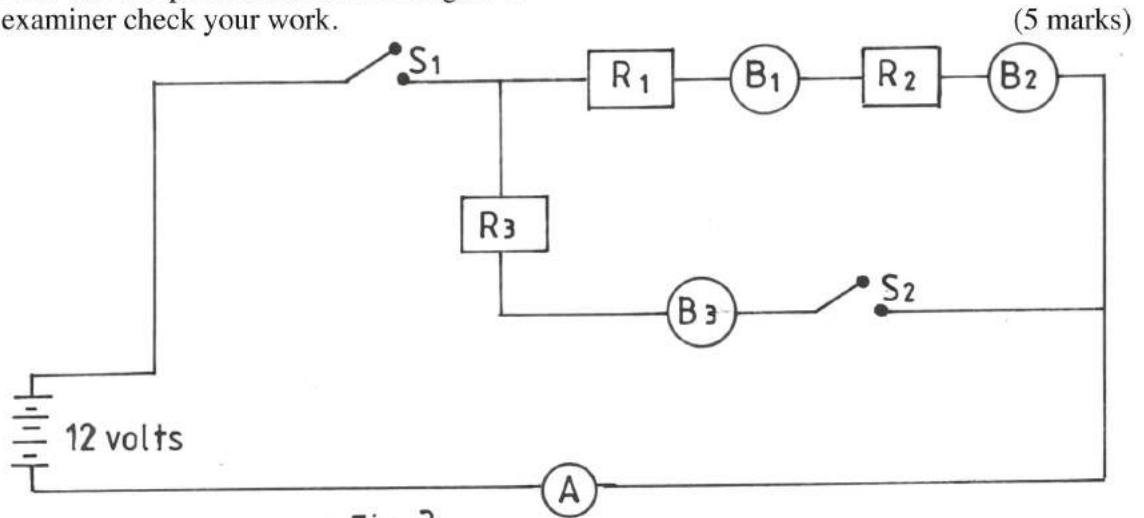

Fig. 3
- (a) Connect the components as shown in figure 3.